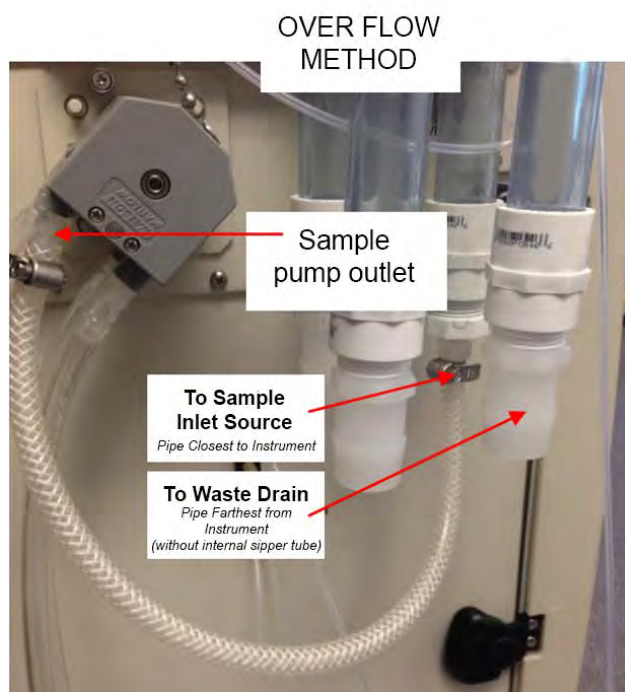
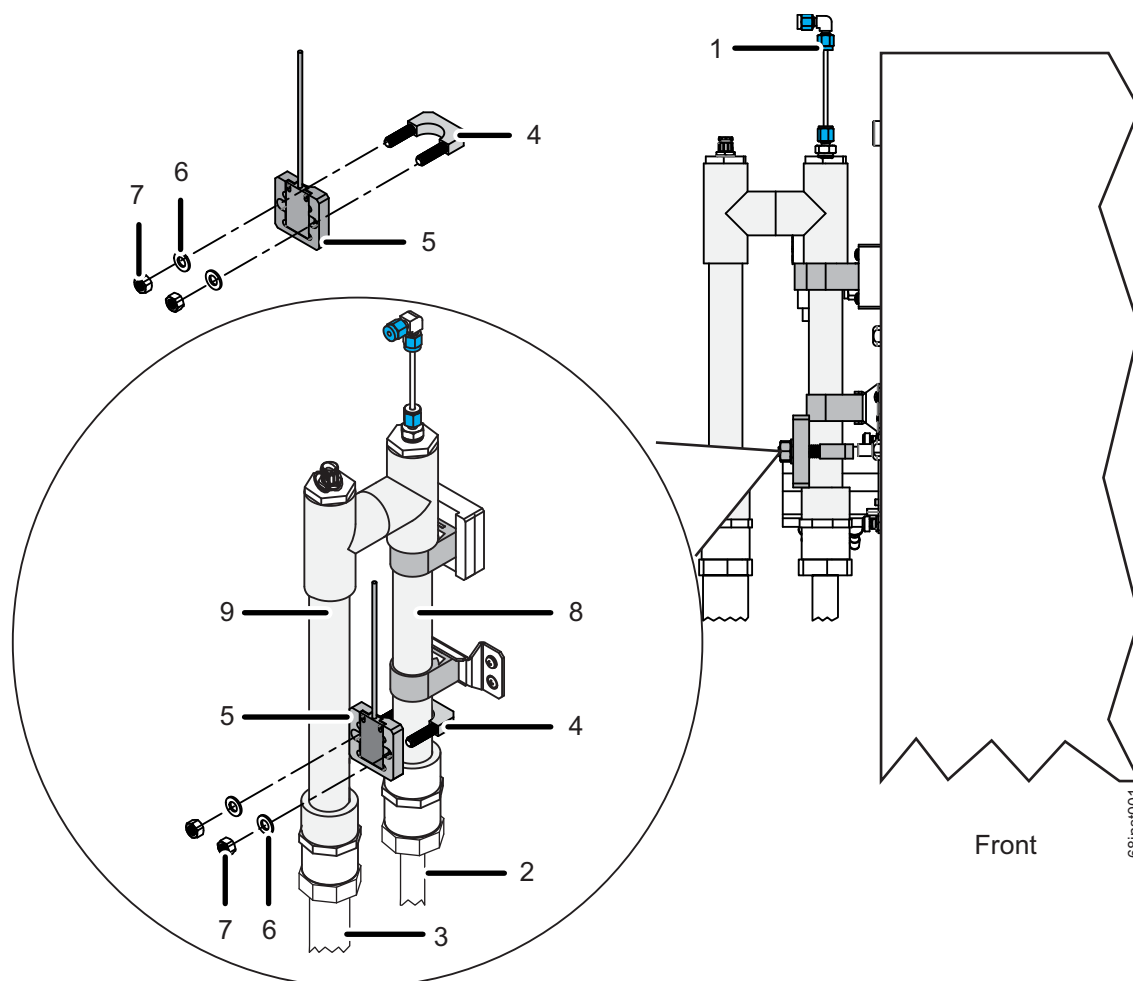

Figure 32: 2-Stream, Overflow Mode — Installation
Figure 33: Overflow Mode — Fail Safe Installation
12. Remove the U-bolt **(4)** from the sensor **(5)** and position the U-bolt **(4)** over and near the end of the pipe with the sipper tube **(8)**. See Figure 33: Overflow Mode — Fail Safe Installation on page 103.
15. Connect the pipe nearest the instrument (the pipe with the internal sipper tube (8)) to the sample source (2). (See Figure 33: Overflow Mode — Fail Safe Installation on page 103 and Figure 32: 2-Stream, Overflow Mode — Installation on page 102.)
16. Connect the pipe farthest from the instrument (the pipe *without* the internal sipper tube (3)) to the waste outlet, connected to a gravity drain. This will insure that no back pressure
(< 7 kPa, 1 psig) is created within the Analyzer. (See Figure 32: 2-Stream, Overflow Mode — Installation on page 102.)